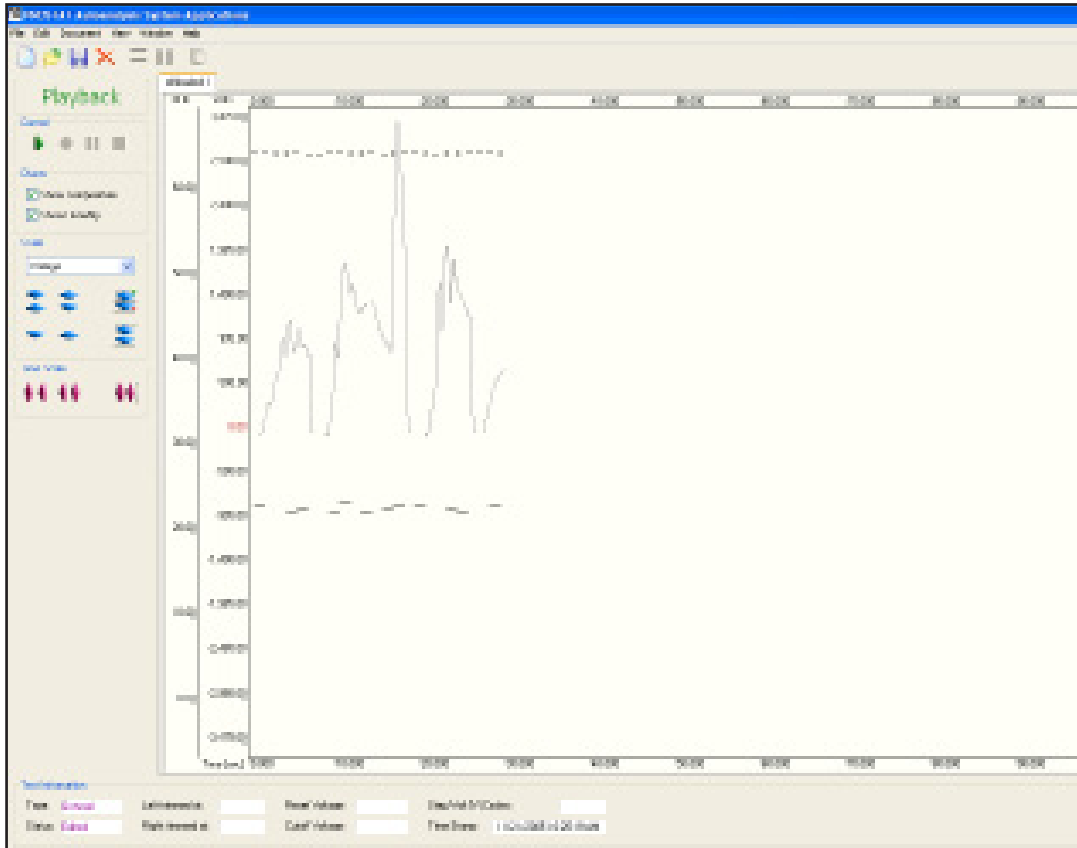

Figure 57: Offloaded File from PGA-710 Autoanalyzer
7. Downloaded Files will be displayed and indicated by Offload - # (See Figure 57)